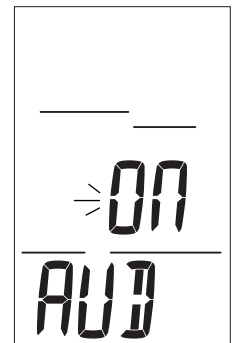

Fig. 20 - Set AUD AL
**Set Audible Alarm**, information includes (Fig. 20):